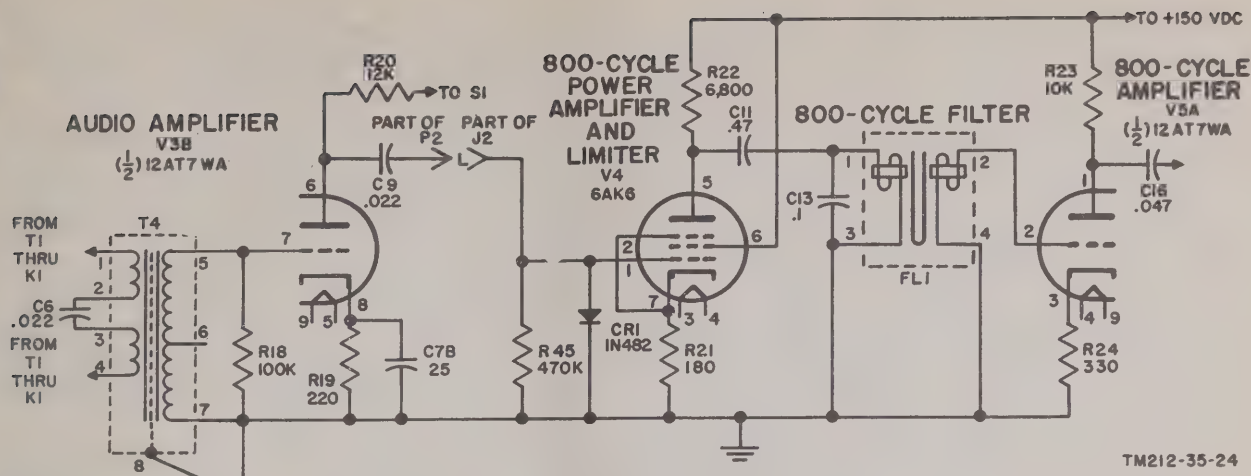
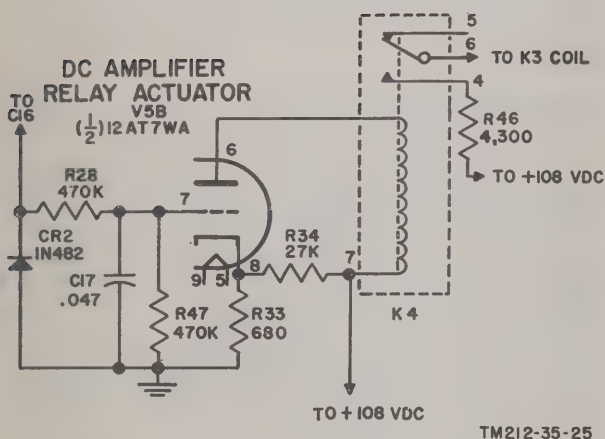

Figure 24. Amplifiers V3B, V4, and V5A, 800-cps.
Figure 25. Dc amplifier, relay actuator V5B.
a. *800-cps Amplifier Detector* (fig. 24). The receiver applies an 800-cps signal from the remote radio set through the hybrid stage (par. 33) and signal transfer relay K1 (contacts 13-7 and 14-9) to the 80-cps amplifier detector. This signal is fed into the grid of audio amplifier tube V3B through transformer T4, which is an impedance-bridging transformer across the 600-ohm telephone line. This signal is amplified and fed to the control grid of tube V4 through coupling capacitor C9. The positive portion of the signal is limited by the clipping action of diode CR1, thus tending to partially limit the signal to the control grid of tube V4. Consequently, there is no change in plate current or voltage drop across the plate load resistor of tube V4 during the positive portion of the input signal. The negative portion of the signal voltage applied to the control grid of tube V4 is not affected by diode CR1; consequently, this negative voltage decreases the voltage drop across the plate load resistor of tube V4 and results in an increase in voltage at the plate of the tube. When a very large ac input voltage is applied to the control grid of tube V4, the positive portion of the cycle is limited as before due to the clipping action of diode CR1. However, during the negative portion of the large ac input signal, tube V4 is driven toward cutoff; consequently, the maximum plate current and plate voltage change is reached. This limits the drive voltage to the input of tuning fork filter FL1.
*c. Dc Amplifier Relay Actuator* (fig. 25). The 800-cycle signal from V5A is rectified by diode CR2, which is connected as a half-wave rectifier. The resultant positive pulses are smoothed out by a resistance-capacity filter circuit composed of resistor R28, capacitor C17, and load resistor R47. Resistor R28 serves as a ripple attenuator. The output of this filter circuit is a positive dc voltage which is applied directly to the grid of dc amplifier tube V5B. Fixed cathode bias is developed for this dc amplifier by a voltage divider from B+ to ground composed of resistors R33 and R34. When the positive voltage from the preceding filter is applied to the grid of tube V5B, the tube conducts, causing dc to flow through the coil of relay K4 to energize this relay. Contacts 4-6 of relay K4 are closed by this action, thus applying +108 volts dc control voltage to ringing transfer relay coil K3, terminal 10.
*f. Ringing Voltage.* This generator supplies a 20-cps ringing voltage through ringing transfer relay K3 (fig. 25) contacts 3-11 and 6-13, directly to the switchboard.
*a. Ring-in (800-cps) From Remote Set.* The 800-cps ringing signal appears in the grid circuit of hybrid V1. Hybrid V1 will pass the 800-cps signal in the same manner as voice frequencies (*b* below). The 800-cps signal will not ring into the switchboard, which is sensitive to 20 cps only. To convert the 800-cps signal to 20 cps, the 800-cps signal is applied to the primary of T4 (fig. 24) and then passed through stages consisting of V3B, V4, FL1, V5A, V5B, and K4 (fig. 25). A detailed analysis of how these stages convert the 800-cps ringing signal to a 20-cps ringing signal is covered in paragraph 30.